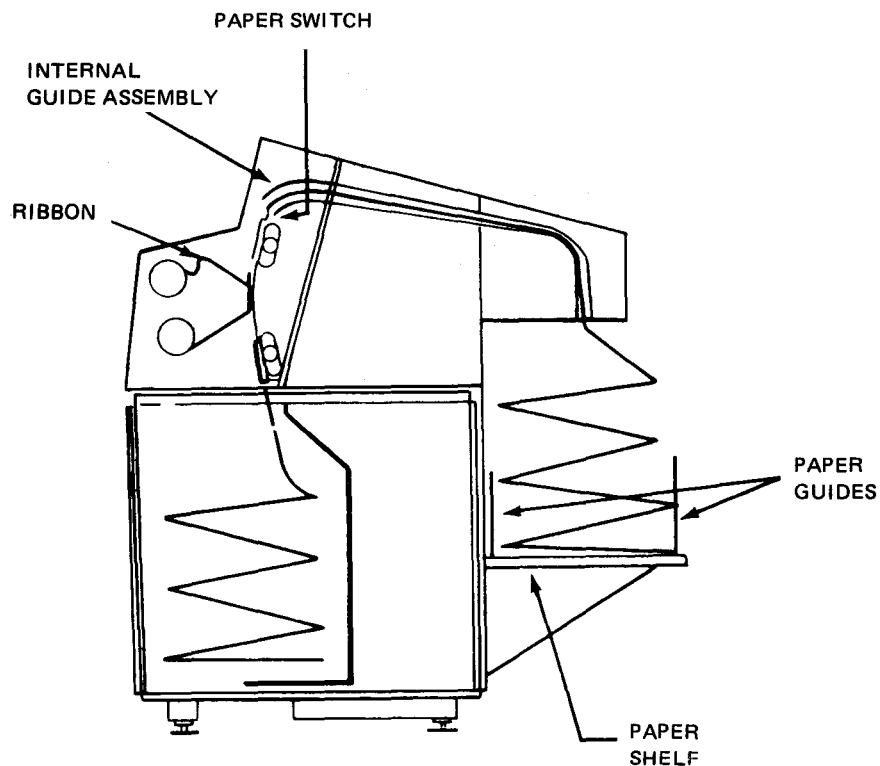

Figure 5-79. Form Feed Configuration
21. Feed form through internal guide assembly to rear of printer so that form passes through slot in the sound hood and folds between rear and front paper guides on the paper shelf (Figure 5-79).